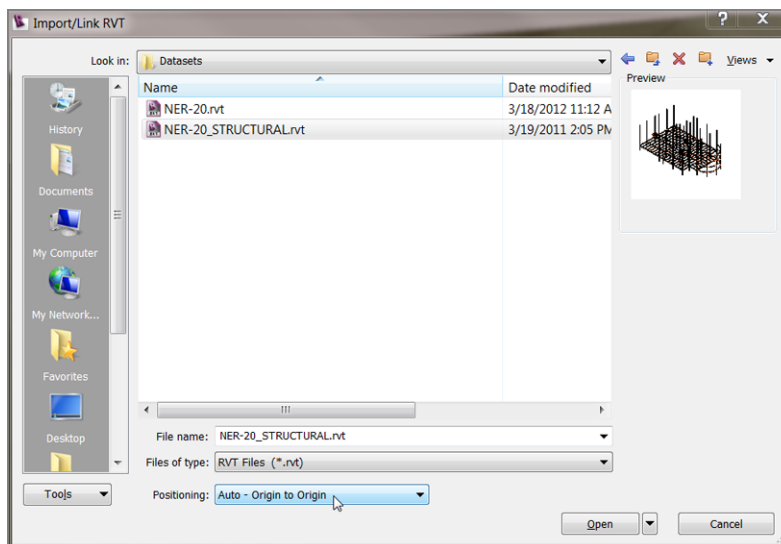

FIGURE 20.2: Pay attention to the choices provided before you click Open.
6. At the bottom of the dialog box, you have a choice of Positioning. Select Auto - Origin To Origin, as shown in Figure 20.2.